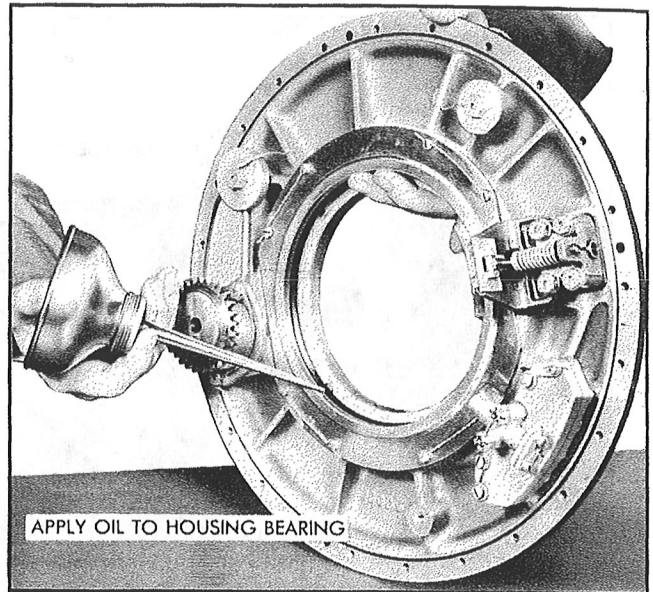

Figure 156—Installation of Regulator Gear Assembly
*Step 19.*—On models A632S-C1, -B1, -B5, lubricate the regulator housing with recommended propeller oil as indicated in Figure 156.